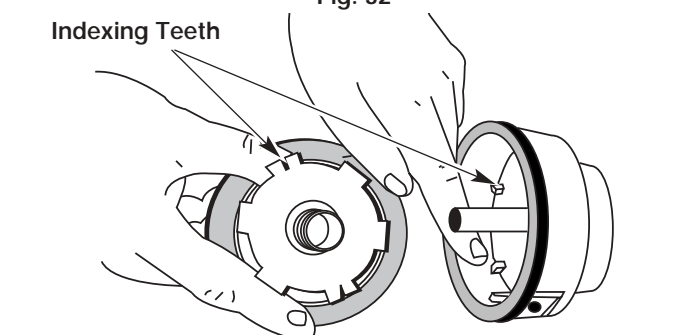

Fig. 33
- Check the indexing teeth on the inner reel and outer spool for wear (Fig. 33). If necessary, remove burrs or replace the reel and spool.